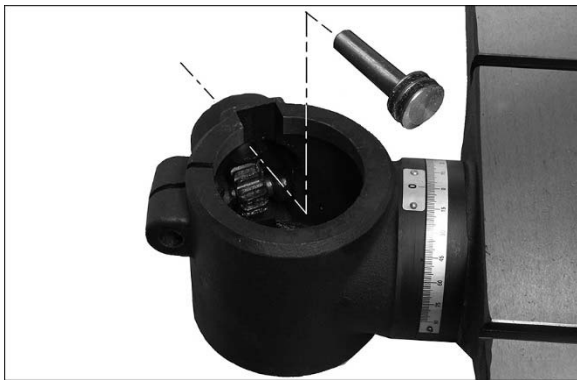

Figure 4
4. Insert shaft of worm through table bracket hole, while meshing worm with the preinstalled gear. See Figure 4.